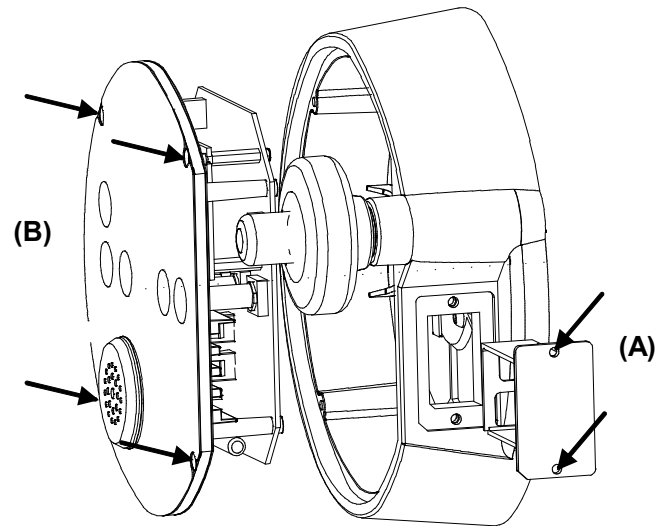

Figure 9-5
- Unscrew with the 2.5 Allen key the 2 screws (A) of the battery holder and pull it out as shown on Figure 9-5.
- Unscrew with the 2.5 Allen key the 4 screws (B) of the display unit and pull it gently out as shown on Figure 9-5.